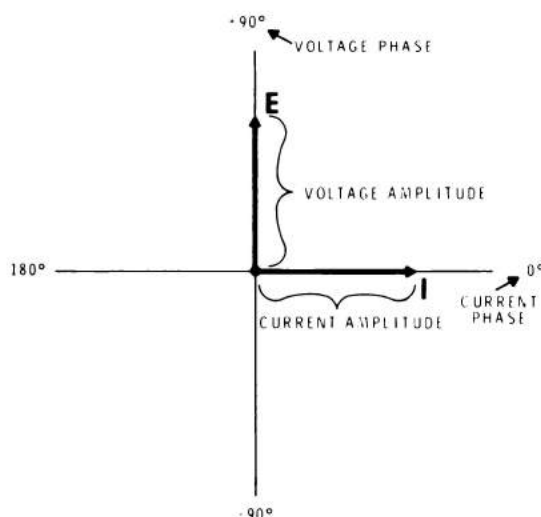

Figure 2-32
The phase relationship in an inductive circuit can also be shown using phasors or vectors. A phasor diagram for an inductive circuit is shown in Figure 2-32. Phasors represent the values of current and voltage and also show the phase relationship which exists. Note that the current (I) phasor is drawn on the 0 degree line. Since we are dealing with a series circuit, and the current is the same everywhere in a series circuit, we use the current phasor as our reference. The voltage phasor (E) is shown at the +90 degree point because it is leading the current phasor by 90 degrees. The length of each phasor represents amplitude.